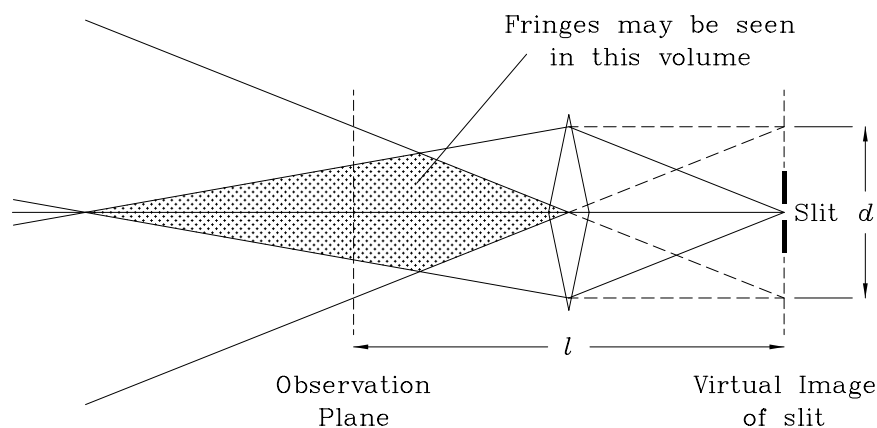

Figure 1: Fresnel biprism experiment.
over the light source, but following this is a biprism which consists of two prisms of acute apex angle glued together at their bases (see Figure 1). Light diverging from the single slit is refracted by the two halves of the prism to produce two overlapping, diverging beams which interfere to produce a fringe pattern.
The fringe pattern may be observed anywhere in the space in front of the biprism in which the two beams overlap. It may be thought of as interference between light from two virtual sources which arise from refraction of the two halves of the beam from the single slit, by the biprism. This is indicated by the dotted lines in Figure 1. Equation (1) therefore holds where  $d$  is now the spacing between the *virtual sources* which appear to be in the plane of the single slit behind the biprism. If the fringe spacing  $\Delta x$ , the virtual source spacing  $d$ , and the distance between the plane of observation and the single slit  $l$  are measured it is possible to calculate the wavelength of the light.